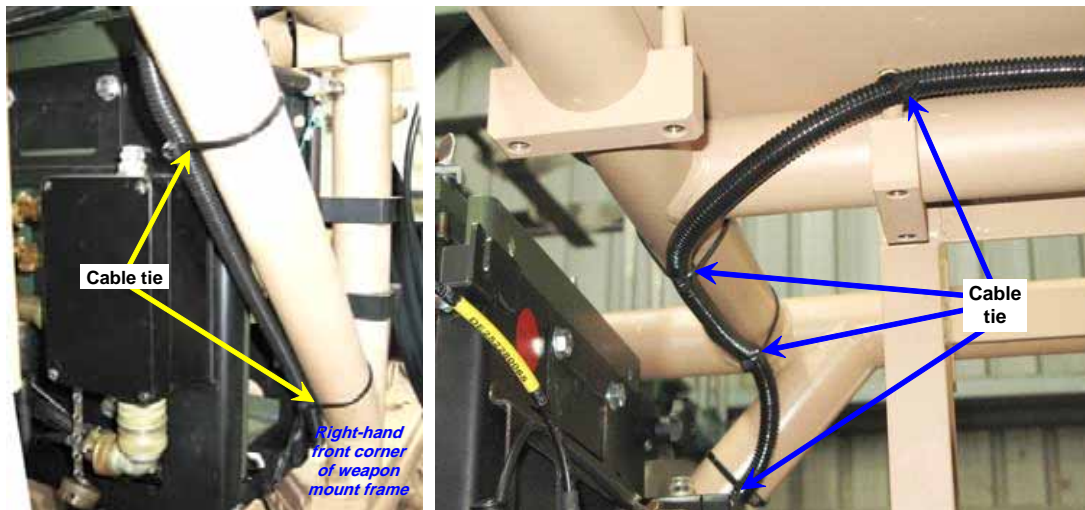
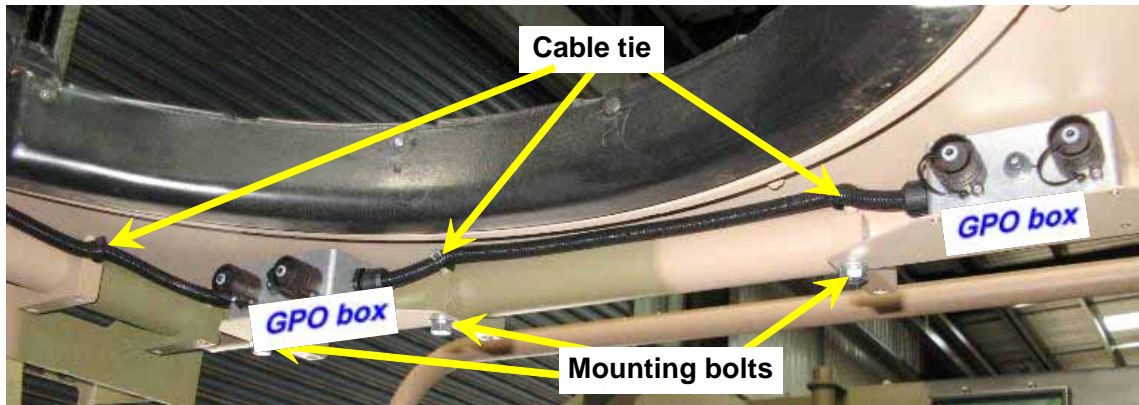

Figure 45 GPO Conduit Routing
Figure 46 GPO Box Mounting
- (2) Lay the GPO harness (Table 1, Item 72) around the weapon mount frame along the general route illustrated in Figure 45 and so that the GPO boxes finish in the positions illustrated in Figure 46.